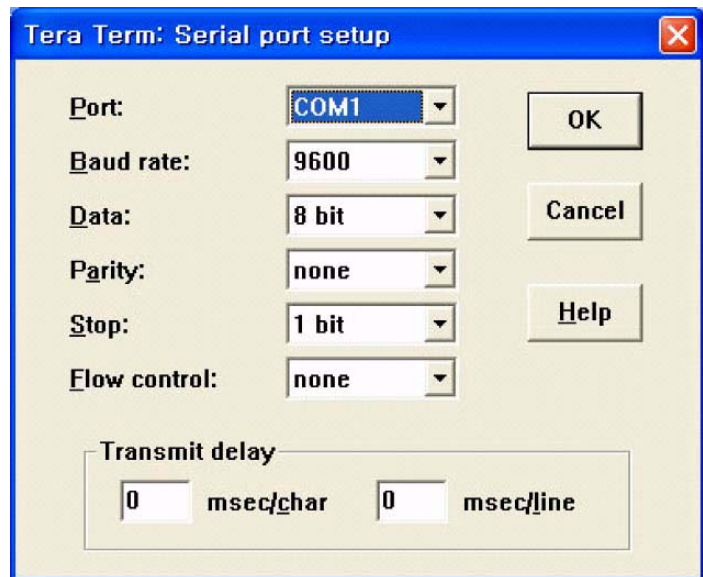

Figure 3
5. Set terminal settings as follows. (See Figure 3.)